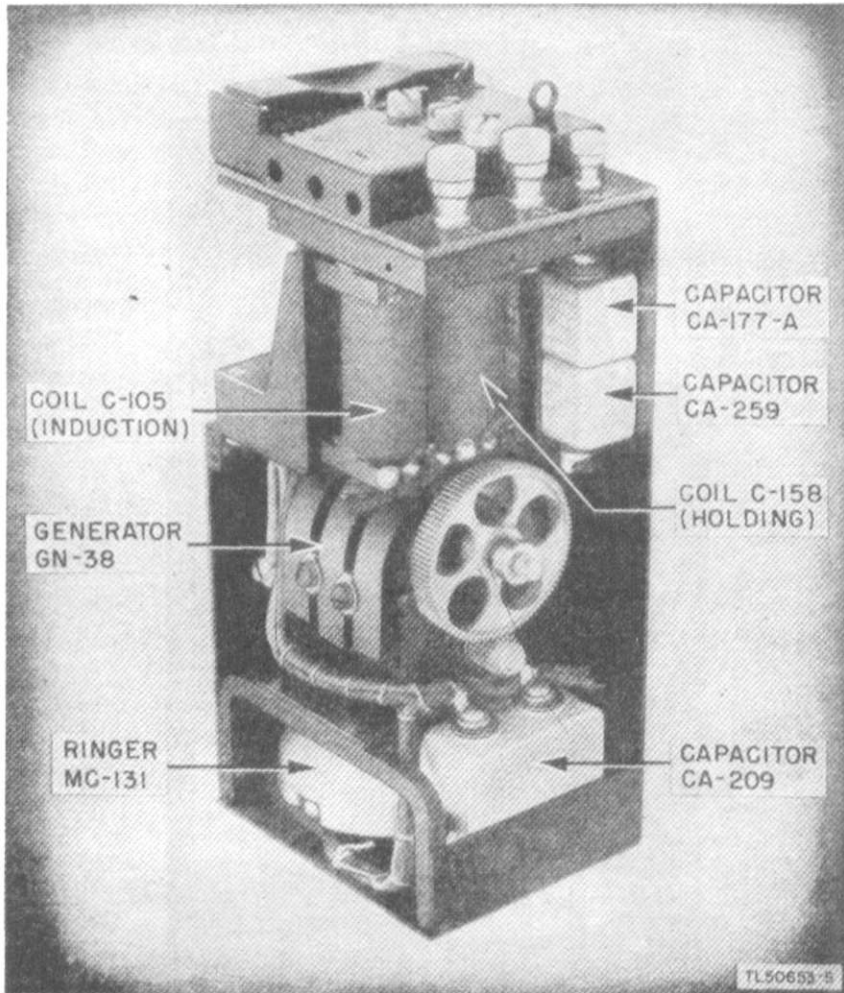
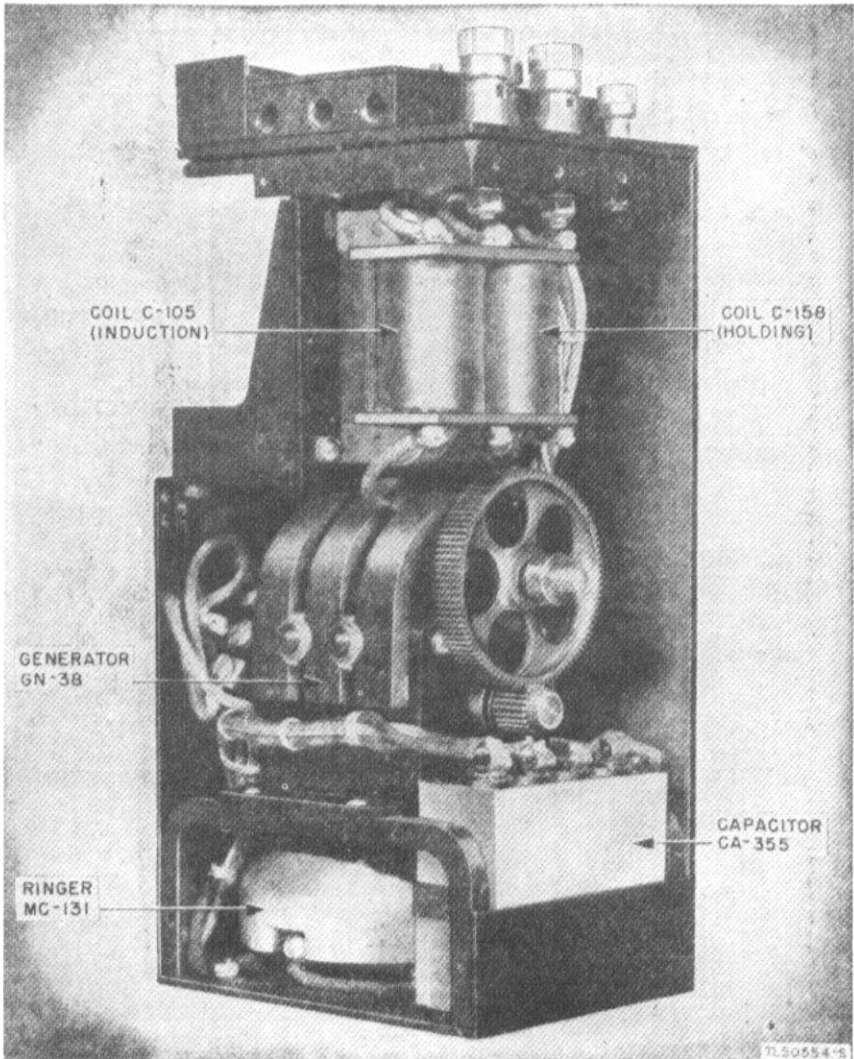
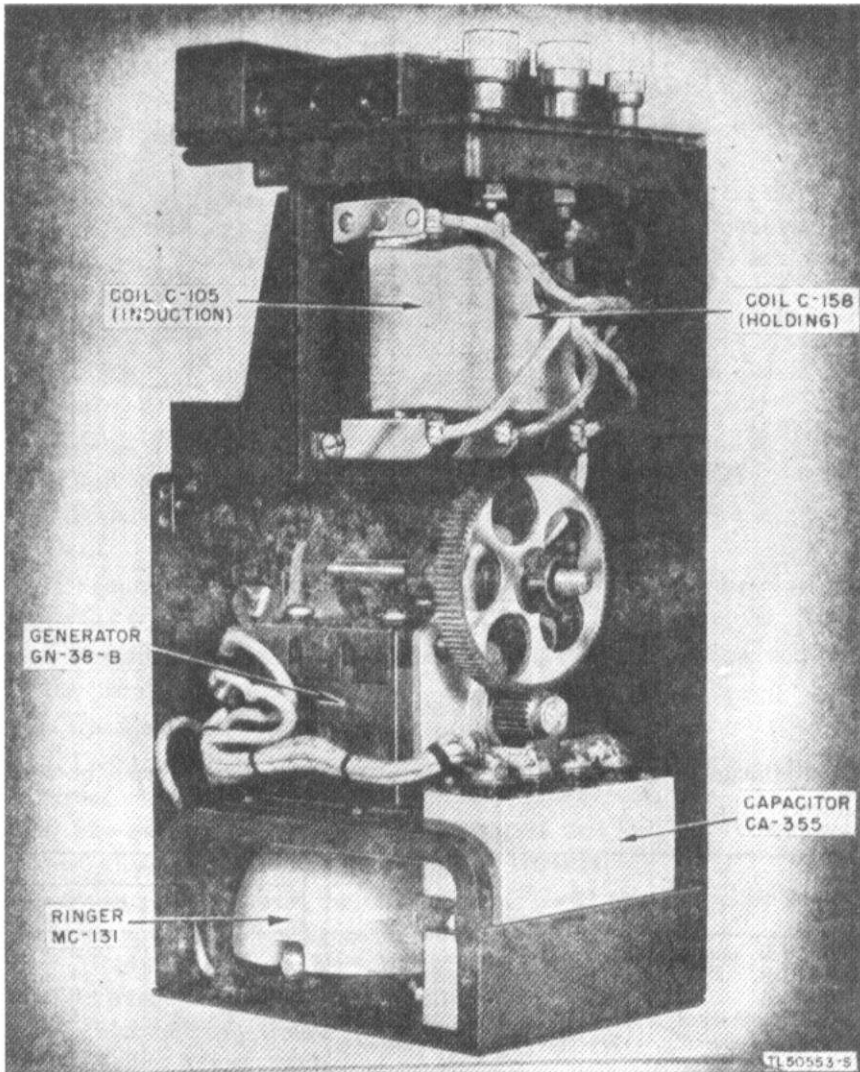

Figure 6. Telephone EE-8 body with the front wall, crank, and side wall removed.
Figure 7. Telephone EE-8-A body with the front wall, crank, and side wall removed.
Figure 8. Telephone EE-8-B body with the front wall, crank, and side wall removed.
(2) *Coils.* The induction coil (Coil C-105) and the holding coil (Coil C-158) are mounted directly under the terminal block (figs. 6, 7, and 8).
(3) *Generator GN-38(*).* Generator GN-38, which is used in Telephones EE-8 and EE-8-A (figs. 6 and 7), or Generator GN-38-A or GN-38-B, which is used in Telephone EE-8-B (fig. 8), is mounted
(4) *Capacitors.* Capacitor CA-355 is mounted below and to the right of the generator in Telephones EE-8-A and EE-8-B. (See figs. 7 and 8). Telephone EE-8 uses Capacitors CA-209, CA-177-A, and CA-259. Capacitor CA-209 is mounted below and to the right of the generator, and Capacitors CA-177-A and CA-259 are mounted behind the holding coil with Capacitor CA-177-A on top. (See fig. 6).
(5) *Ringer MC-131.* Ringer MC-131 is mounted on the floor of the body and to the left of the capacitor. (See figs. 6, 7, and 8.)